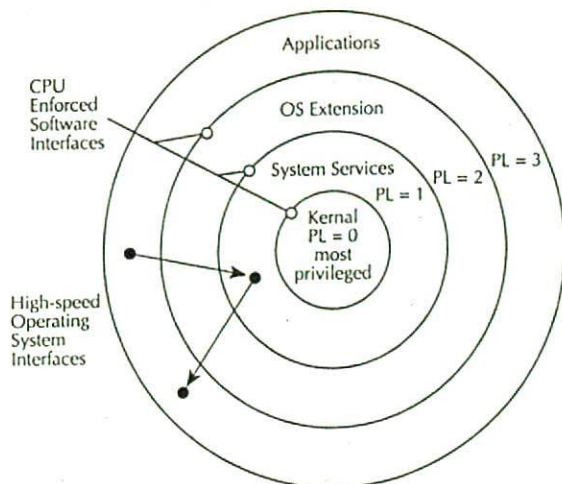

FIGURE 4.21 Four-level hierarchical protection.
The four-level hierarchical privilege system is shown in Figure 4.21. It is an extension of the user/supervisor privilege mode used by minicomputers. Note that the user/supervisor mode is supported by the 80386 paging mechanism. The Privilege Levels (PL) are numbered 0 thru 3. Level 0 is the most privileged level.